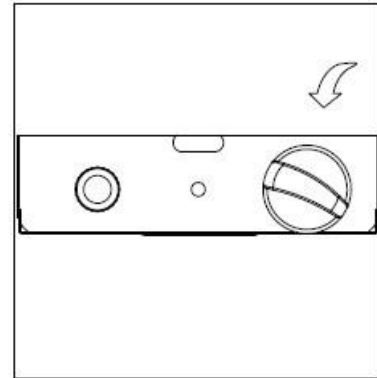

Figure 5
-As you are depressing the control knob, place long stem lighter (See figure OO on page 3) through the hole located in between the igniter and the variable control knob to light the pilot (Figure 5).
8. Push in and turn the control knob to the "HIGH", then release control knob. If you want a lower temperature, push in the control knob and turn counterclockwise to the "LOW" (Figure 5).